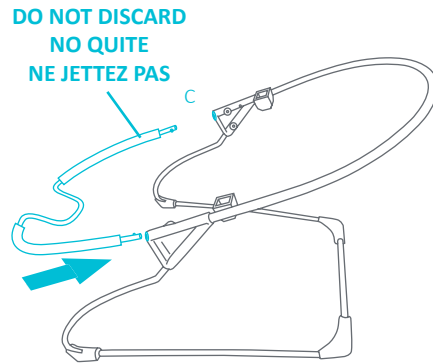

Fig. 2d
- DO NOT** Discard the Foam Padding from the Footrest Wire (Fig 2d).
- To Insert the Footrest Wire, align the ends to corner C of the 3-Way Connector. Be sure the small curvature parallels with the surface and the ends of the wire both point up (Fig 2d). Insert the ends into the 3-Way Connectors and be sure that they click into place.
- NO** quite la almohadilla de espuma del alambre del apoyapiés (Fig 2d).